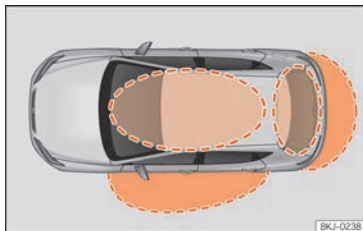
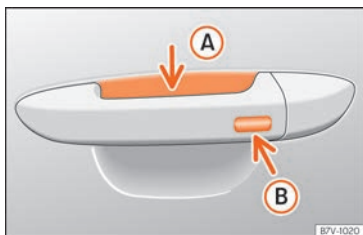

Fig. 93 Keyless Access: proximity zones.
Fig. 94 Door handle: sensor surfaces
» **Fig. 94**
Keyless Access is a key-free locking and ignition system to unlock and lock the vehicle without actively using its key. To do this, all that is required is to have a valid vehicle key in the detection area where you are attempting to access the vehicle » **Fig. 93** and to touch one of the sensor surfaces on the door handles » **Fig. 94** » **!**.
If a valid key is in the proximity of the car » **Fig. 93**, the Keyless Access locking and starting system gives the key entry as soon as
- Grip the driver door handle. When you do this, you touch the sensor surface »» Fig. 94 (A) (arrow) of the handle and the vehicle unlocks.
- Touch (once) the locking sensor surface »» Fig. 94 (B) (arrow) on the driver's door handle. The door that is used must be closed.
- Touch (once) the sensor surface »» Fig. 94 (B) (arrow) on the driver's door handle. The vehicle locks with the "Safe" security system »» page 101. The door that is used must be closed.
- Touch (twice) the sensor surface »» Fig. 94 (B) (arrow) of the driver door handle to lock the vehicle without activating the "Safe" security system »» page 101.
When the vehicle is locked, the rear lid automatically unlocks on opening if there is a valid vehicle key in the proximity »» Fig. 93.
- Push the central locking button  on the remote control and touch the locking sensor surface of the driver door handle »» Fig. 94 (B) within the following 5 seconds. Do not grasp the door handle; otherwise the vehicle will not unlock. Deactivation is also possible if the vehicle is locked through the driver's door lock.
To close all the electric windows and the sunroof using the **comfort function**, keep a finger for a few seconds on the locking sensor surface »» Fig. 94 B (arrow) of the door handle until the windows and roof have closed.
The sensor surfaces on the door handles could engage if hit with a water jet or high pressure steam if there is a valid vehicle key in the proximity. If at least one of the electric windows is open and the sensor surface »» Fig. 94 B (arrow) on one of the handles is activated continuously, all windows will close.